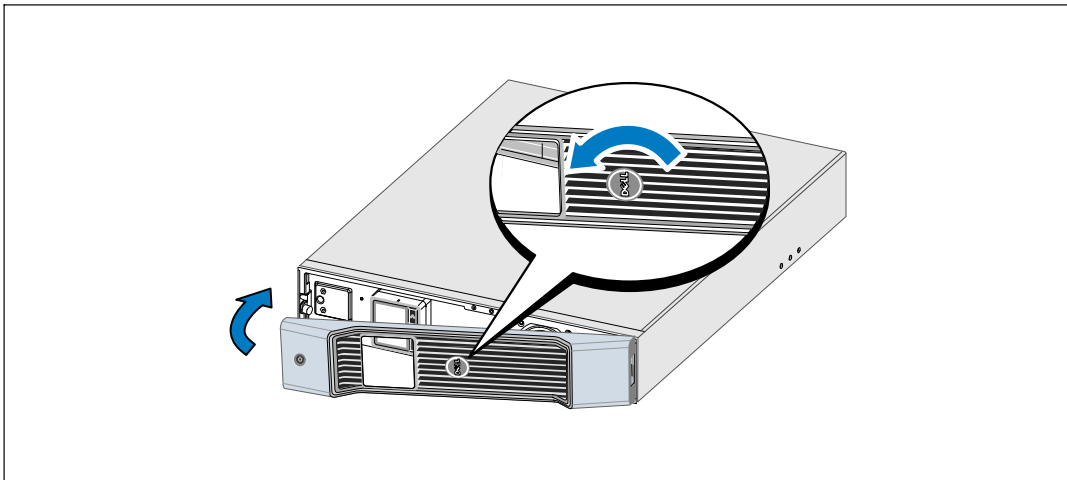

Figure 23. Installing the UPS Front Cover
- 6 Rotate the Dell logo 90° counterclockwise and install the UPS front cover (see Figure 23).